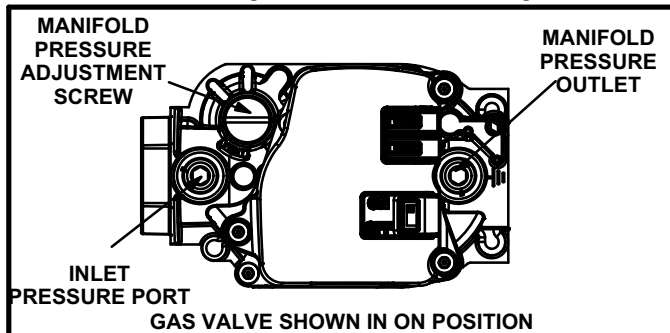

FIGURE 2
#### Operating the Gas Valve (Figure 2)
- 6 - Move switch on gas valve to **OFF**. See figure 2.
- 8 - Move switch on gas valve to **ON**. See figure 2.